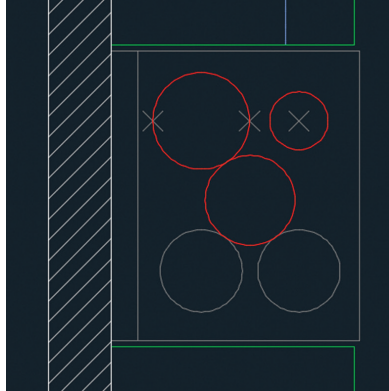

FIGURE 2.23 Drawing circles with various options
10. Type TAN, press Enter to invoke the Tangent object snap, and click the circle on the lower right. You can type the first three letters of any object snap as an alternative to using the context menu. AutoCAD draws a circle precisely tangent to the three others (see Figure 2.23).